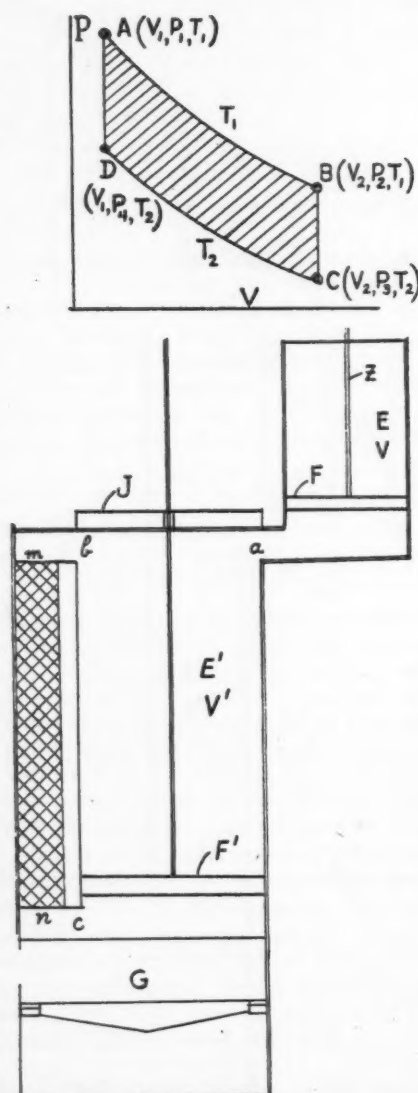

Fig. 21.—Schematic representation of a Stirling type of hot air engine and Stirling cycle.
**The Stirling Type of hot air Engine.** A Stirling type of hot air engine is represented schematically in Fig. 21. It consists of a generator cylinder  $E^1$  and a working cylinder  $E$ , whose volumes are respectively  $V^1$  and  $V$  and provided with the pistons  $F^1$  and  $F$  containing a heat insulating material, a furnace  $G$ , a refrigerator  $J$  (a double walled cover in which circulates cold water) and a regenera-